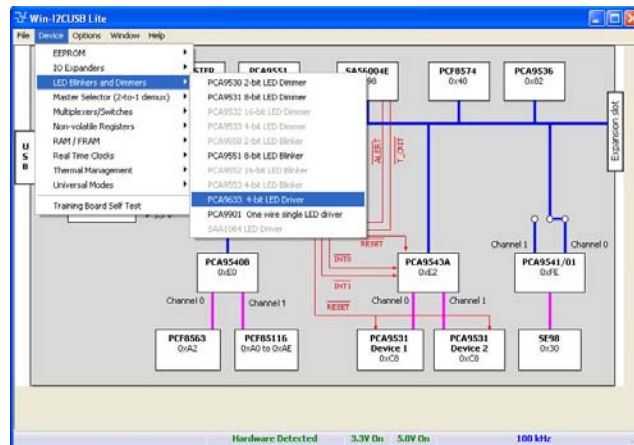

Fig 3. Drop-down menu selections
4. From the 'Device' drop-down menus select 'LED Blinkers and Dimmers', and from the subsequent drop-down menu select 'PCA9633 4-bit LED driver' as in Figure 3.